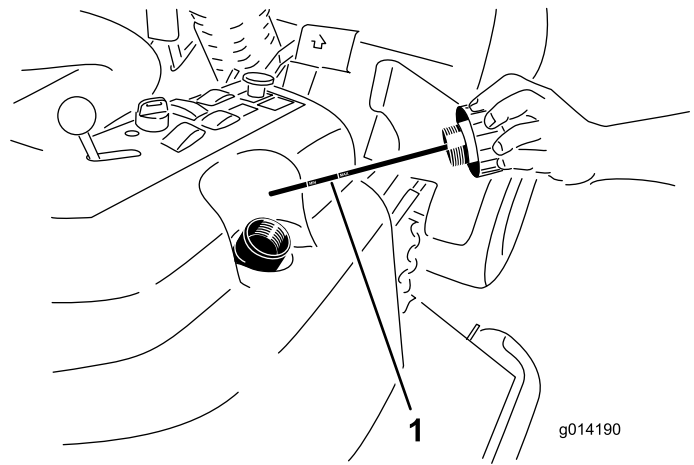

Figure 40
2. Remove the hydraulic fill cap (Figure 40) from filler neck.
3. Remove the dipstick and wipe it with a clean rag (Figure 40).
4. Screw the dipstick all the way into the filler neck; then remove it and check level of fluid (Figure 40).